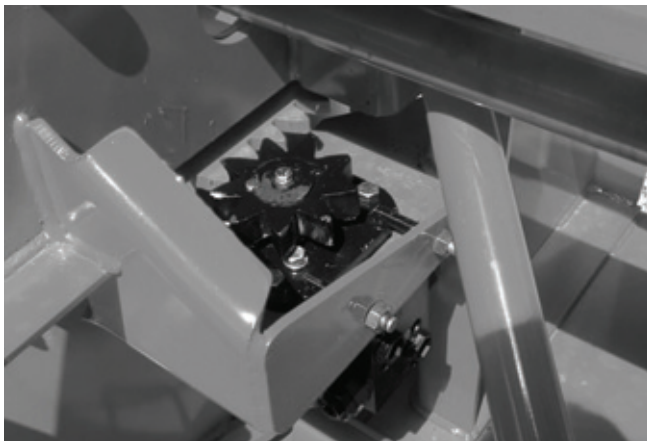

Figure 29
- 3) Bolt hydraulic motor in place pointing the oil outlets to the exterior and install sprocket (Fig. 29).